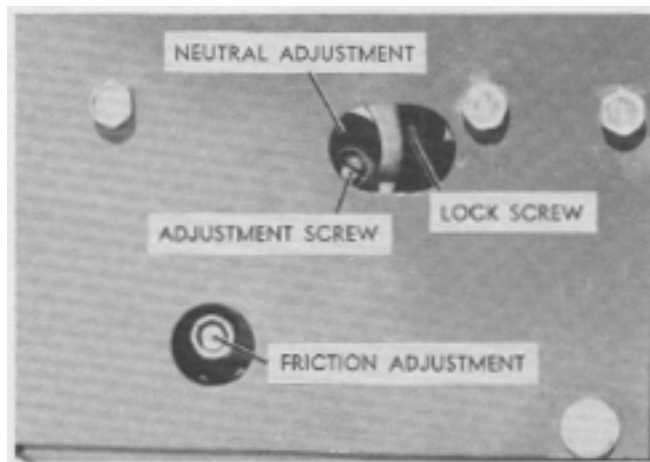

FIG. 10. Transmission Neutral & Speed Control Lever Tension Adjustment
2. Loosen the lock screw holding the eccentric assembly (Fig. 10).
The speed control lever is friction loaded to hold selected speed in either direction. If the lever does not remain where it is set during operation, the friction may be increased by tightening the adjusting nut through the access hole located in the right panel (Fig. 10). The proper amount of friction is obtained when approximately 18 pounds of force at the handle moves the control lever.